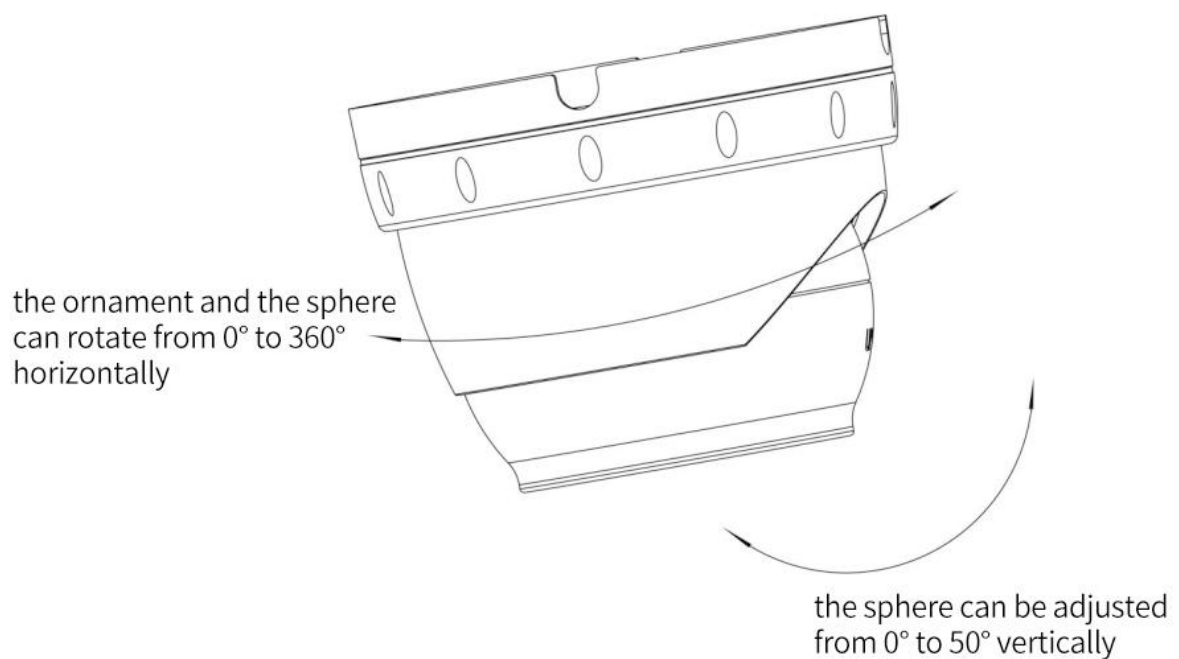

Figure 2.8 Three-axis Adjustment
3. **Step 3 Adjust Monitoring Angle:** Adjust the angle of the sphere by hands, adjust it to a predetermined position by turning or rotating it, and then tighten the lock nut, screw the gland with ornament to the base, as shown in figure 2.8.